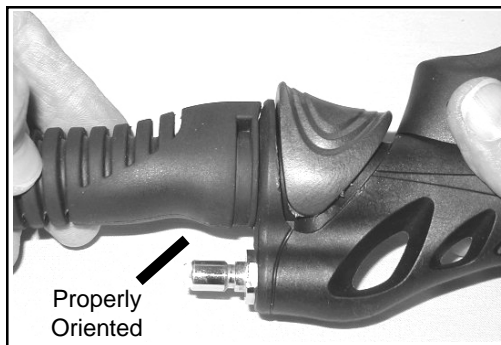

Fig. 11
5. Press the CORRUGATED AIRWAY HOSE (8) onto the Barrel of the LOWER POWER INFLATOR ASSEMBLY (10) ensuring that it is properly oriented (Fig. 11).
6. Fasten a TIE WRAP (7) around the Groove of the HOSE and tighten with the lock Tab positioned at the side of the HOUSING. Snip off the excess length.